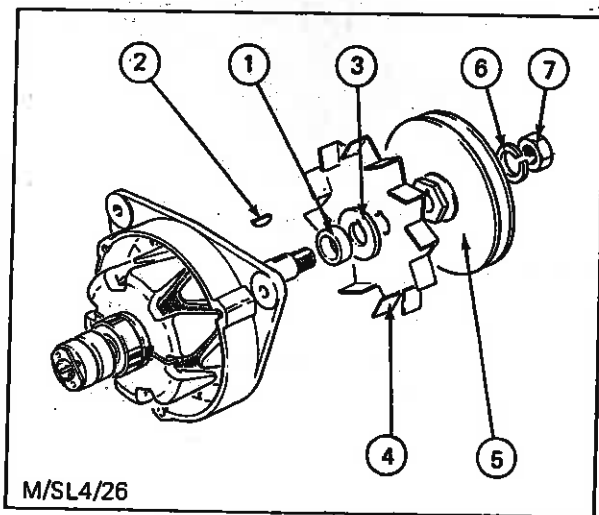

Fig. 42 - Replacing Fan and Pulley
2. Slide the bearing spacer (1) onto the rotor shaft and fit the Woodruff key (2) - see Fig. 42. Slide the clamping plate (3), fan (4) and pulley (5) onto the shaft and secure with spring washer (6) and nut (7). Tighten nut to the recommended torque value - see 'Specifications'.